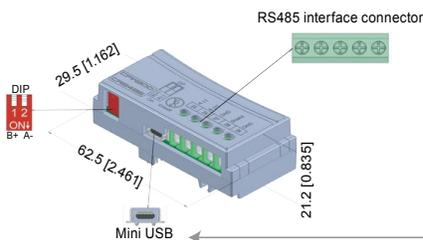
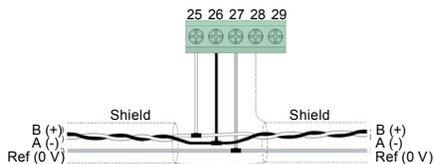

Figure A2: CFW300-CRS485 dimensions in mm [in] and connectors location
Figure A3: Example of connection of the accessory to the RS485 network
The location of the DIP switch to select the RS485 network termination can be better viewed in Figure A2 and it must be configured as per Table 2. Figure A3 shows a connection example of the CFW300-CRS485 accessory to a RS485 network. The connection complies with the directions of the user's manual of the Modbus RTU for the CFW300.
- The mini USB connector (see Figure A2) is used for communication with the CFW300-KHMIR kit only.